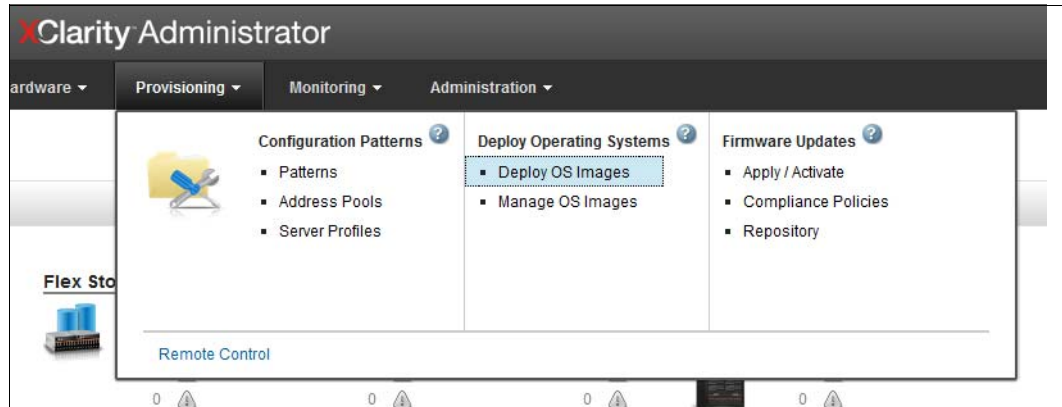

Figure 6-7 Deploy OS Images
1. Click **Provisioning** → **Deploy OS Images** under the Deploy Operating Systems section, as shown in Figure 6-7.